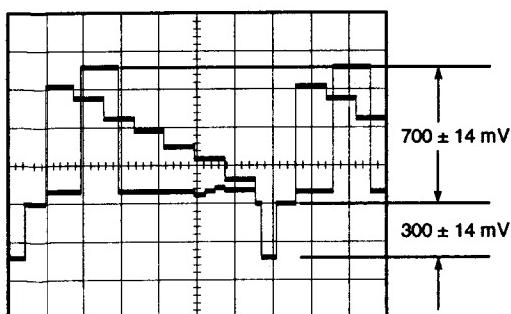

Fig. 5-1-13
- Adjust VR10 so that the Y Level becomes 700 ± 14 mV as shown in Fig. 5-1-13.
- Adjust VR2 so that the Sync Level becomes 300 ± 14 mV as shown in Fig. 5-1-13.